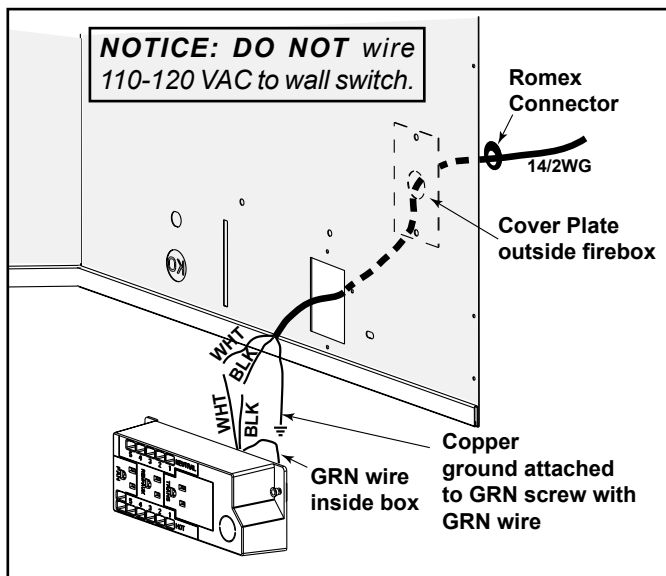

Figure 8.1 Generic Junction Box Detail Shown
- Remove the screw attaching the junction box/receptacle to the outer shell, rotate the junction box inward to disengage it from the outer shell. See Figure 8.1.
- Pull the electrical wires from outside the appliance through the opening into the valve compartment and secure wires with a Romex connector. See Figure 8.1.